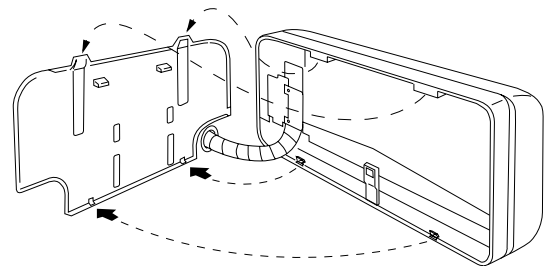
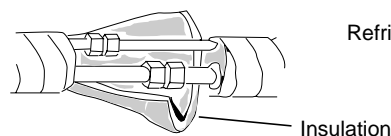

Fig. 36
Fig. 37a
- (2) Push the wiring, refrigerant tubing, and drain hose through the hole in the wall. Adjust the indoor unit so it is securely seated on the rear panel. (Fig. 36)
- (3) Carefully bend the tubing (if necessary) to run along the wall in the direction of the outdoor unit and then tape as far as the fittings. (See Caution on page 17.) The drain hose should come straight down the wall to a point where water runoff won't stain the wall.
- (4) Connect the refrigerant tubing to the outdoor unit. (After performing a leak test on the connecting part, insulate it with the tubing insulation (Fig. 37a)). Also, refer to Section 5-4. Connecting Tubing between Indoor and Outdoor Units.